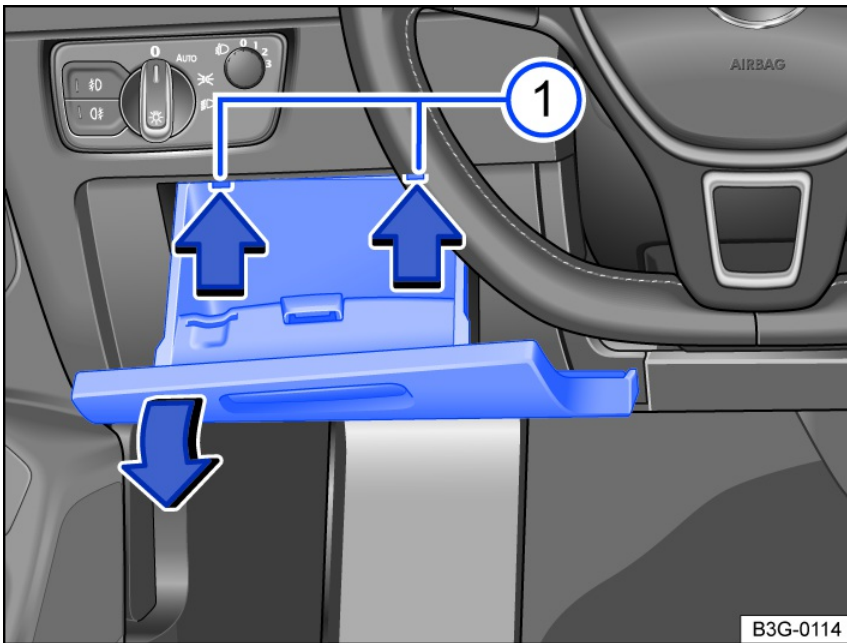

Fig. 155 Left-hand drive vehicles, to the left of the steering wheel: Fuse box cover in the left-hand drive vehicle instrument panel.
1. Open and, if necessary, empty the storage compartment *fig. 155*.
2. Press the retaining tabs upward in the direction of the arrow and, at the same time, open the storage compartment further and remove it until the fuse panel is accessible *fig. 155* ①.